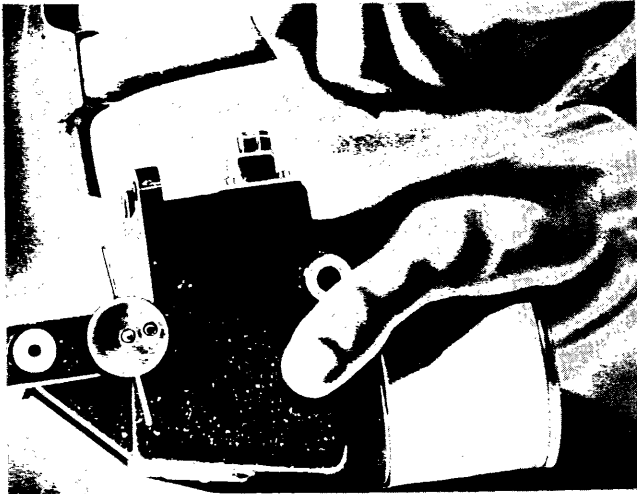

Figure 105F
2. Knock out the pin holding the deflection knob, using a 1/16-inch drill rod punch. (See figure 105F.) Unscrew the deflection knob lock, then unscrew the knob and the long screw which passes through the reticle mount.